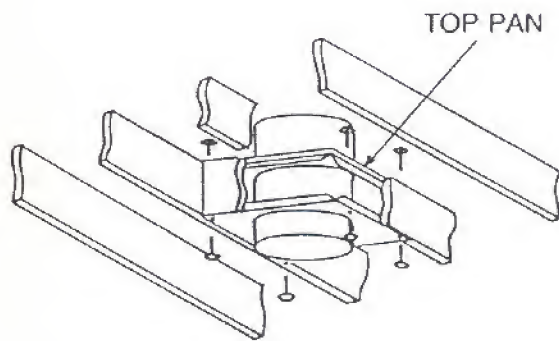

Figure 13
8. Install firestop spacer in opening. See Figure 13. This firestop is always installed from the bottom by nailing into the joists. Where an attic space exists, the top pan must be installed on the top surface of the joists to prevent combustibles from falling into the joist's framed opening.